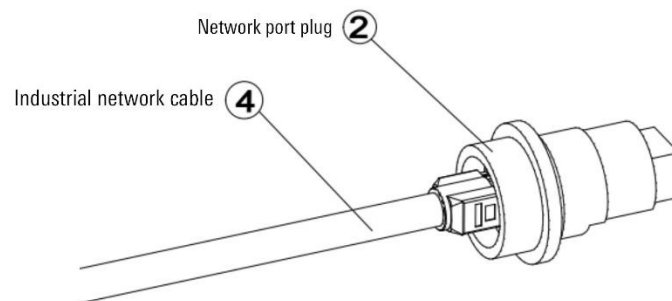

Figure 11-8 EtherCat cabinet external wiring diagram
Step4. Connect one end of the ④ industrial network cable to the ② network port plug, and the other end to the user's own application module (refer to Figure 11-8).